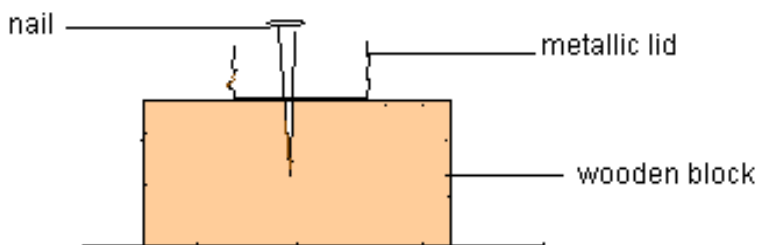

Figure 2.2: Showing one stage in the process of spirit burner making
2. Place the lid on the wooden block and hammer the nail into the centre of the lid as shown in Fig. 2.2.